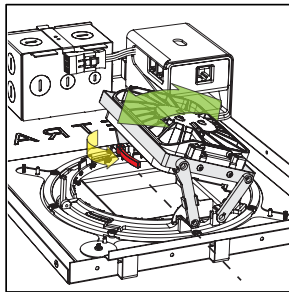

fig. 14
- Unlock the emitter chassis: reach into the D3's housing and unlock tilt lock and rotation lock levers (both colored red) (see fig. 14).